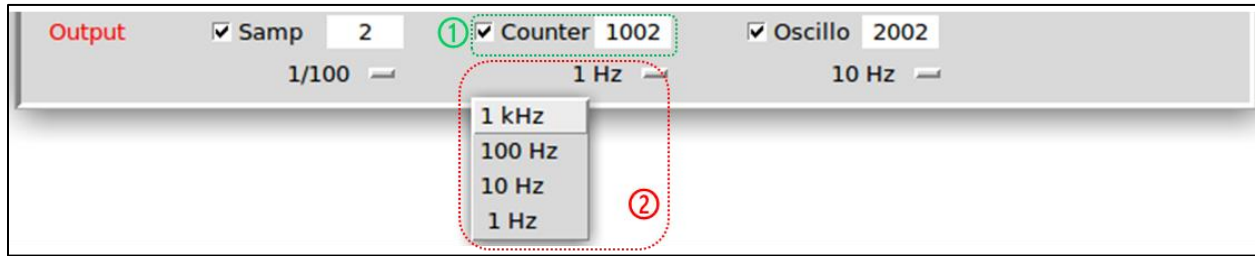

Figure 34: out frequency of the “Counters” data
By enabling the "Counters" output (cf. Figure 34 ①), the experimenter can store and display the counting data, called "Counters" with a selected frequency of 1 Hz, 10 Hz, 100 Hz and 1 kHz (cf. Figure 34 ②).